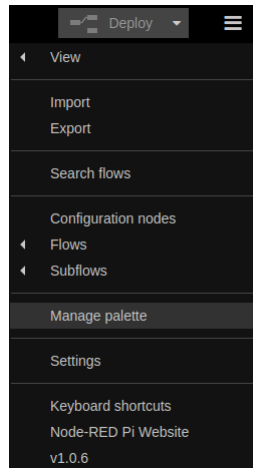

Figure 2.3: Manage Palette
18. Click on the top right corner . Select **Manage Palette** as shown in Figure 2.3. Then from the **install** section, install the following package **node-red-node-daemon** if it is already **NOT** installed. This may take more than a minute.